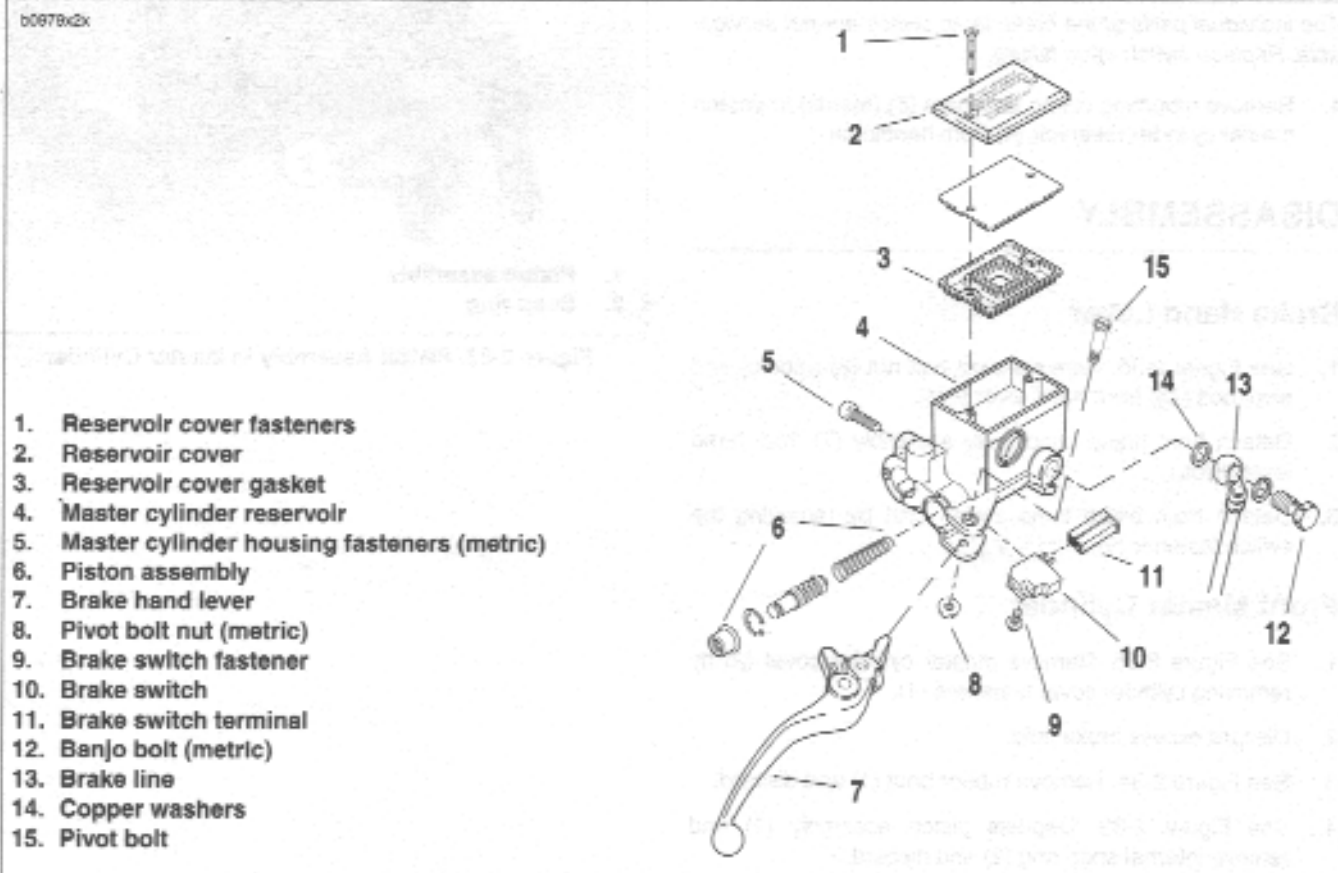

Figure 2-35. Front Brake Hand Lever Assembly
2. See Figure 2-35. Remove the banjo bolt (12) (metric) and two copper washers (14) to disconnect brake line (13) from master cylinder (4). Discard copper washers.
3. Unplug terminal (11) to detach brake lamp switch (10).
1. See Figure 2-35. Remove pivot bolt nut (8) (metric) and pivot bolt (15) from hand lever pivot.
2. Detach front brake hand lever assembly (7) from hand lever pivot.
3. Detach front brake lamp switch (10) by removing the switch fastener (9).
1. See Figure 2-35. Remove master cylinder cover (2) by removing cylinder cover fasteners (1).
5. See Figure 2-35. Remove piston assembly (6) from front master cylinder reservoir (4) and discard.
4. See Figure 2-35. Insert piston assembly (6), spring first, into master cylinder reservoir (4).
1. See Figure 2-35. Lubricate pivot bolt (15) with LOCTITE ANTI-SEIZE.
2. Align hole in hand lever (7) with hole in hand lever pivot and install pivot bolt (15) through top of hand lever pivot and tighten to 80-120 in-lbs (9-14 Nm).
1. See Figure 2-35. Install front brake lamp switch (10).
- a. Install brake lamp switch (10) with switch fastener (9) and tighten to 7-10 in-lbs (0.8-1.0 Nm).
- b. Connect brake switch terminal (11) to brake lamp switch (10).
3. See Figure 2-35. Connect brake line to master cylinder using two new copper washers (14) and banjo bolt (4) (metric) and tighten to 16-20 ft-lbs (22-27 Nm).
5. See Figure 2-35. Remove two master cylinder cover screws (1), cover (2) and cover gasket (3).
9. See Figure 2-35. Attach master cylinder cover (2) and cover gasket (3). Tighten two cover fasteners (1) to 9-13 in-lbs (1.0-1.5 Nm).
3. See Figure 2-35. Remove master cylinder banjo bolt (12) (metric) and two copper washers (14) to disconnect brake line from master cylinder (4). Discard copper washers.
1. See Figure 2-35. Connect brake line (13) to master cylinder (4) using two **new** copper washers (14) and a banjo bolt (12) (metric). Loosely install bolt into master cylinder.
5. See Figure 2-35. Tighten master cylinder banjo bolt (12) (metric) to 16-20 ft-lbs (22-27 Nm).